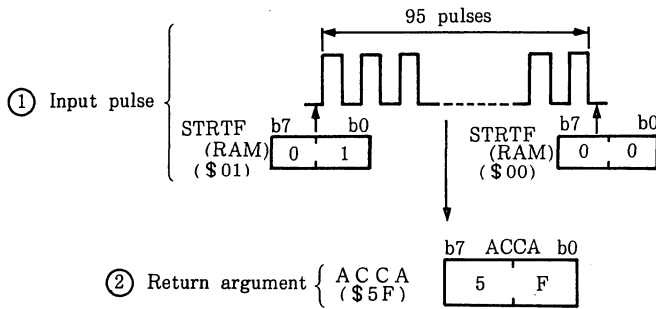

Figure 5-5. Example of PLSCNT Execution
- b. Example of PLSCNT execution is shown in figure 5-5.
- i. If bit 0 of entry argument STRTF(RAM) is set to "1", input pulse count starts as shown in port ① of figure 5-5.
- ii. If bit 0 of entry argument STRTF(RAM) is set to "0" as shown in part ① of figure 5-5, input pulse count result is stored as shown in part ② of figure 5-5.